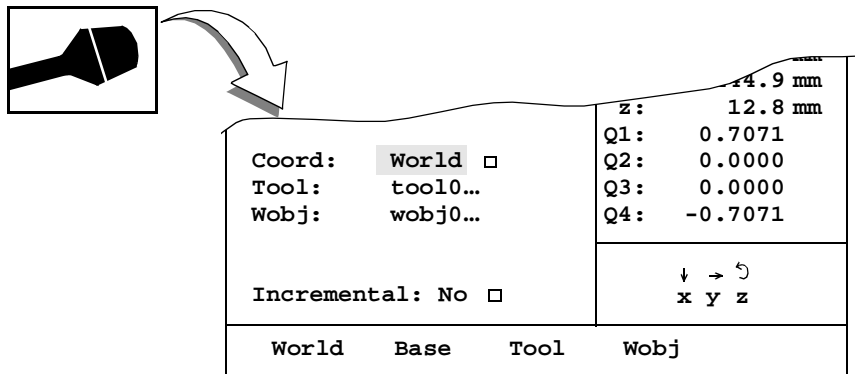

Figure 17 Specify the coordinate system in the Jogging window.
- Select the field **Coord** (see Figure 17).